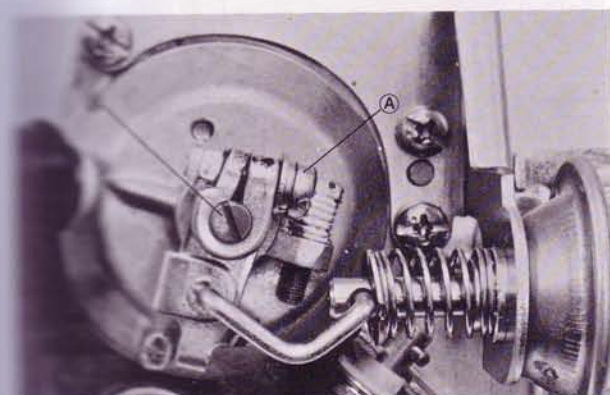

Fig. 4-12 Adjusting choke valve clearance (R)
3. Check the choke valve clearance (R) as shown in Fig. 4-12.
4. If the clearance (R) is not within specifications, first loosen (A) then turn (B) to adjust the clearance (R).